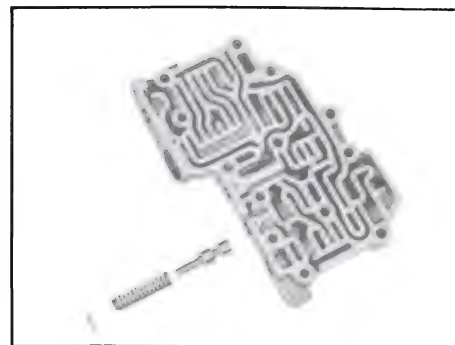

Figure 5-172
1. Install high speed downshift timing valve and spring. Depress spring with J-21547-1 and install retaining pin. See Figure 5-172.